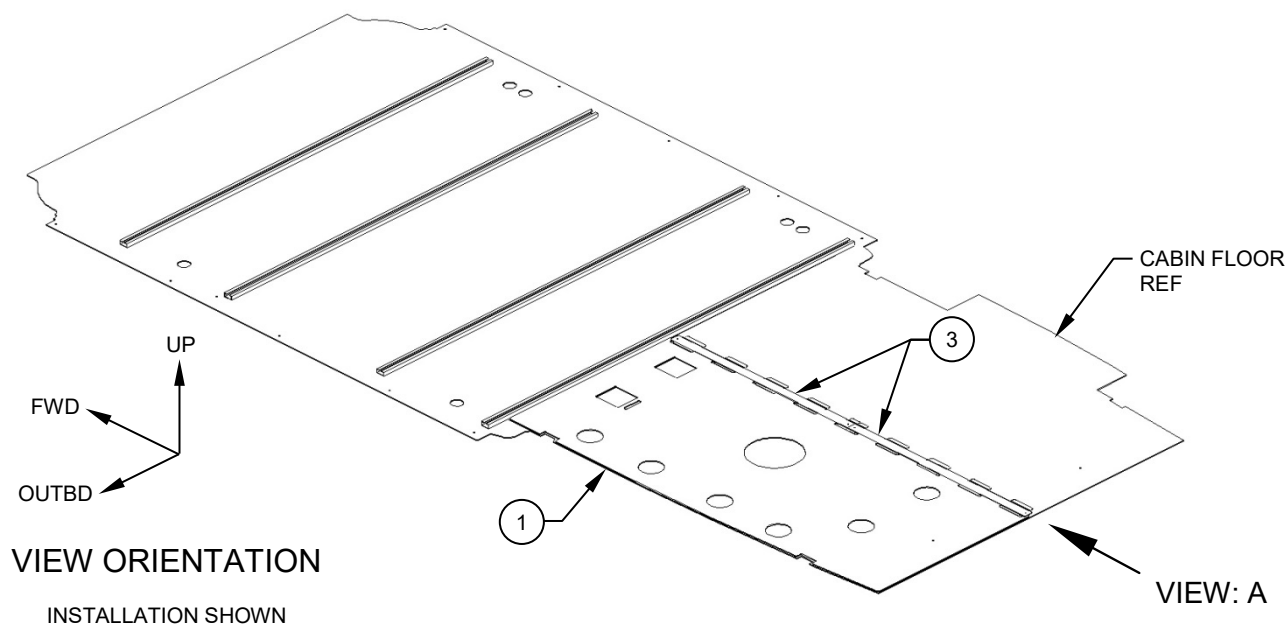

Figure 5
7. Remove the LHS Panel Assy (Item 1) from the floor. Reference Figure 5.